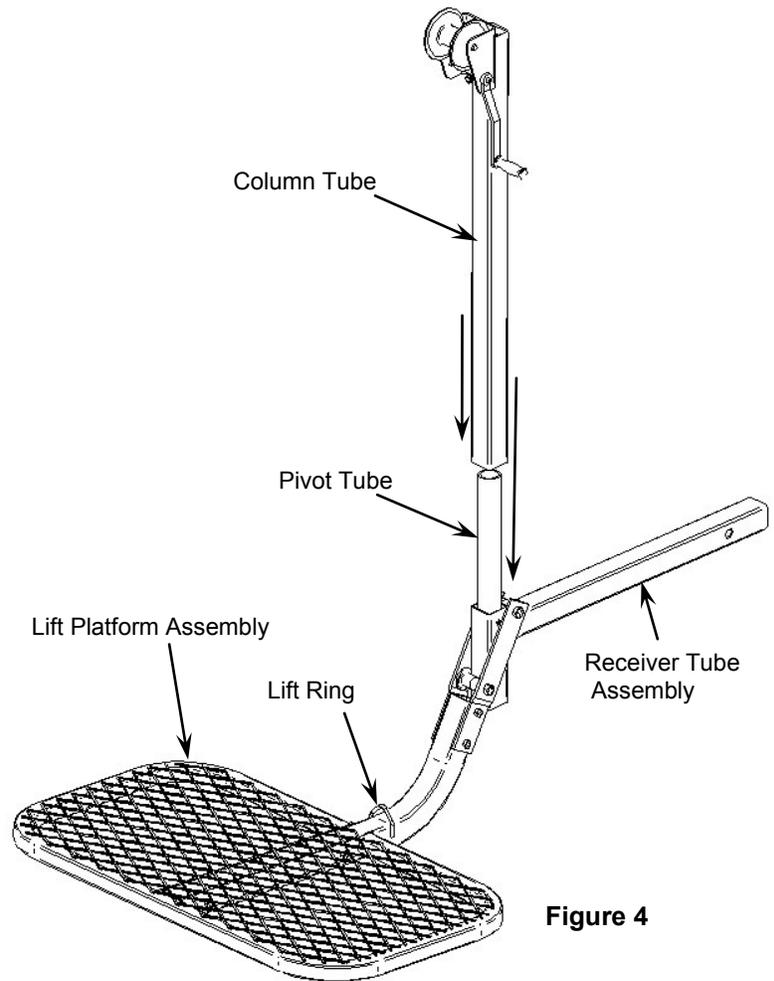

Figure 4
Step 2: Place the lift platform assembly over the pivot tube on the receiver tube assembly, as shown in figure 4. Slide the column tube over the pivot tube as shown in Figure 4 until it is seated against the receiver tube assembly. Align the square column tube with the vertical square tube of the receiver tube assembly as shown.